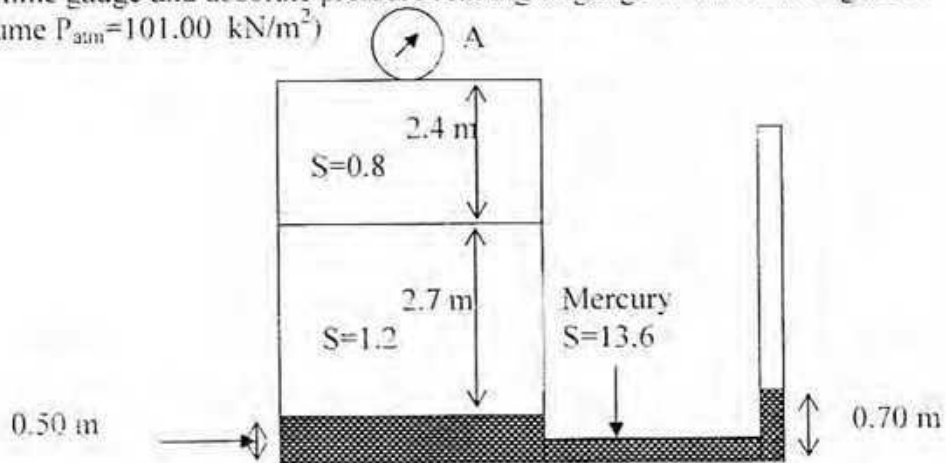

Figure 3
e. Determine gauge and absolute pressure reading of gauge A shown in Figure 3. ( Assume  $P_{atm} = 101.00 \text{ kN/m}^2$  )